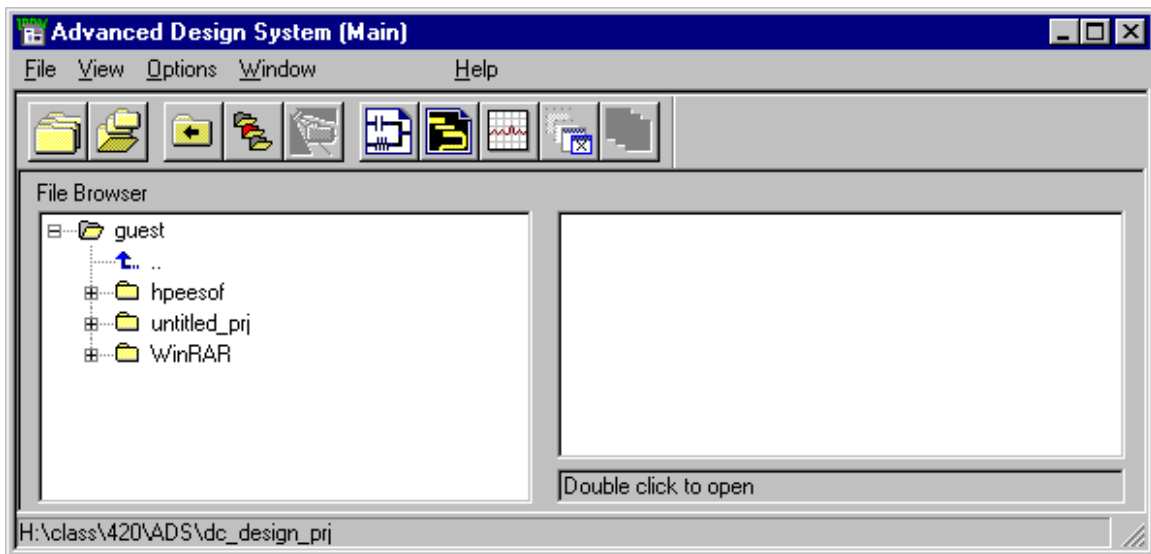

Figure 1: Main ADS Window
3. Open ADS by running the following menu command: **Start->Programs->Advanced Design System 1.5->Advanced Design System** (this runs the following command: C:\AdvDesSys1.5\bin\hpads.exe). The main ADS window is shown in Figure 1 below.